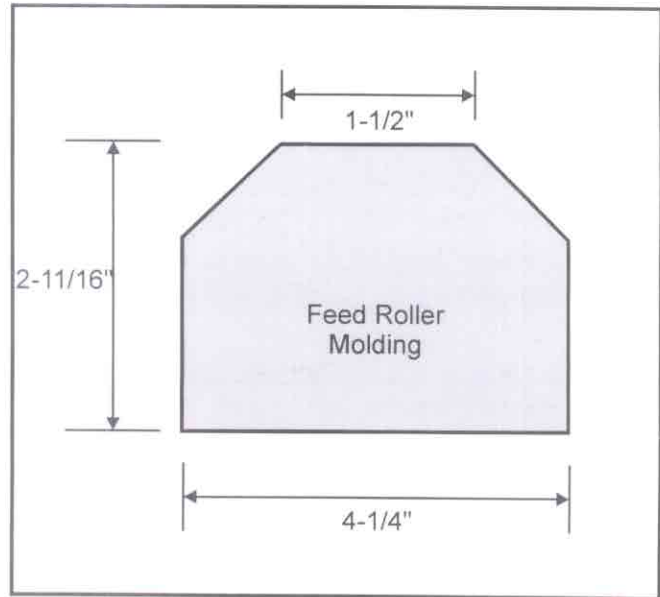

Fig. 11A
1. Following the method for setting the feed rollers when planing (previously explained in this manual), make another wooden block $\frac{5}{16}$ " lower than the cutterhead block. See Fig. 11A.